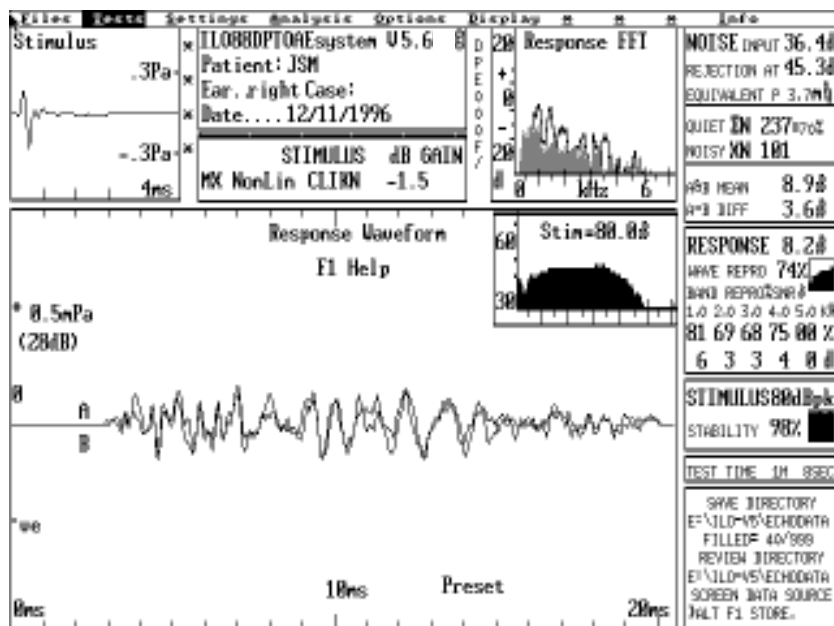

Fig 15
Fig 15 shows a response from a mature adult ear. The OAE response intensity is smaller than the first adult ear shown and the noise contamination is higher. The waveform reproducibility is 74% overall but the frequency band analysis shows that OAEs are present in four bands at or above the 3dB signal-to-noise level between 1 and 4kHz. This can be considered to be a satisfactory pass since the number of sweeps taken (237) is adequate and the overall noise level is low. Higher signal-to-noise levels are often demanded when screen neonates under noisy conditions. Higher values would also be necessary to pass an ear with fewer sweeps comprising the result.